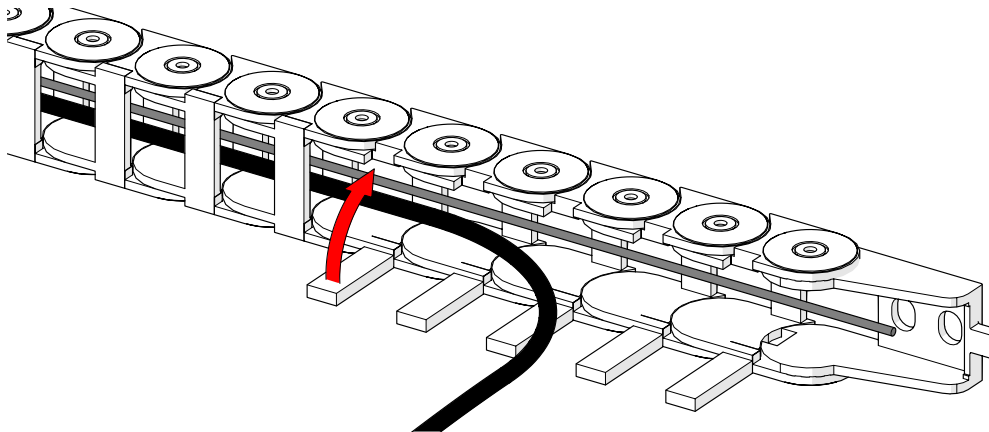

Fig. 111 - Route cabling and close flaps
2. Route all hoses and cables into the cable tray. Clip the flaps to trap the cables in the cable tray (Fig. 111).